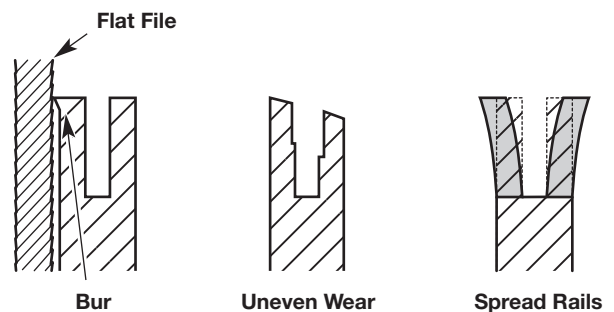

Fig. 20
3. Frequently check the guide bar for damage (Fig. 20). Feathering and burring of the guide bar rails (the ridges on either side of the bar groove) is a normal process of guide bar wear. Such faults should be smoothed with a file as soon as they occur (Fig. 20). A guide bar with the following faults should be replaced: